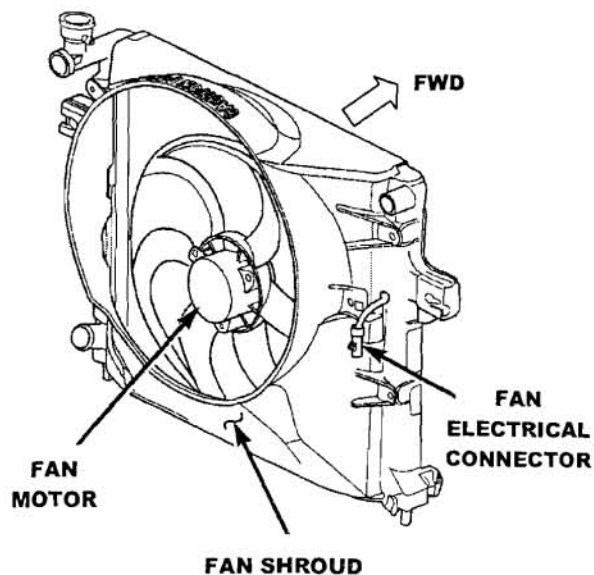

Figure 1
4. Disconnect the radiator fan electric connector from the wiring harness (Figure 1).
- Install the fan shroud/electric radiator fan assembly (Figure 1). Tighten the bolts to 50 in. lbs. (6 N·m).